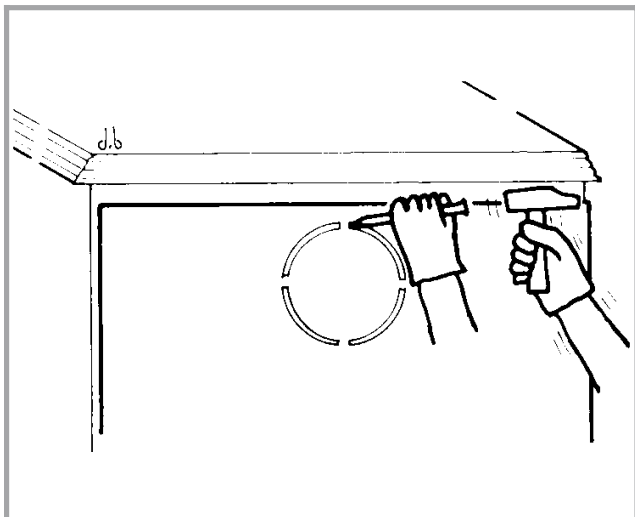

Figure 5 - Removing blanking plate on rear heat shield
- Remove the cut-out in the rear heat shield (fig. 5) and re-fit.